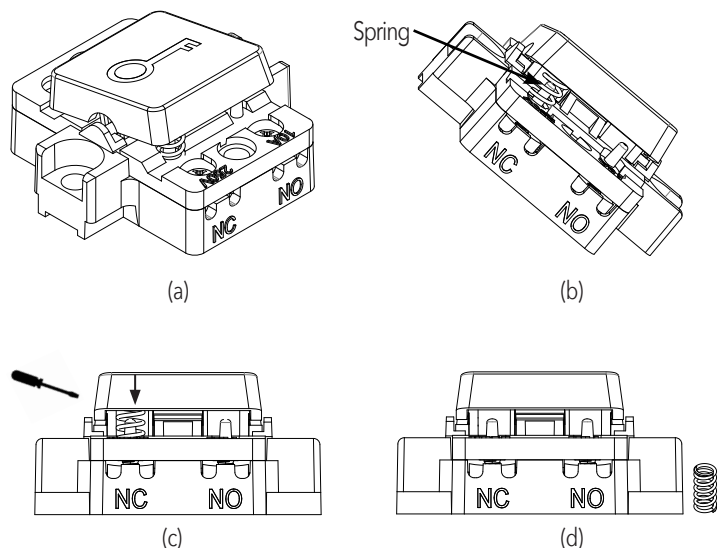

Figure 9: Changing from momentary to maintained
3. Observe the switch and identify the side that is raised (Figure 9(a)). Look underneath the raised side to find a small spring (Figure 9(b)).
4. Use a small flat head screwdriver to push the spring down and off its post on the rocker part of the switch (Figure 9(c)).